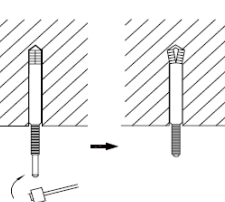

Fig.7
- 3). Insert the anchor bolts into the drilled holes, and drive the pins completely into the anchor bolts with a hammer. (Fig.7)